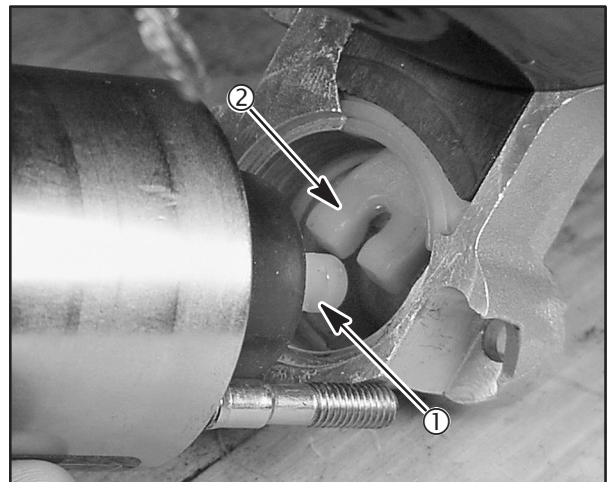

Fig. 30
4. Engage flats on plunger (1) with fork in drive lever (2) and assemble solenoid to starter, **Fig. 30**. Torque nuts to **70 in. lbs. (8 Nm)**.